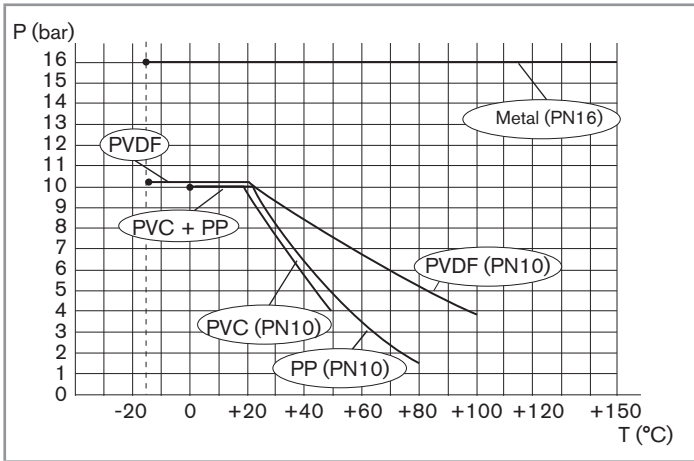

Fig. 5: Fluid pressure / temperature dependency curves for T-fittings used on their own
- Take into account the fluid pressure / temperature dependency according to the materials from which the fitting is made (see Fig. 5) and to the measuring device used (see the relevant user manual).